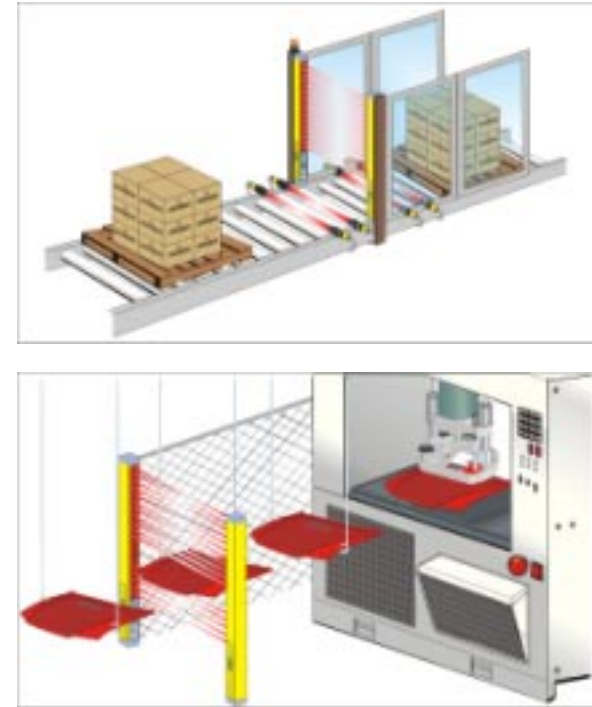

Fig. 22
- In relation to particular operating requirements, the muting function enables the exclusion of the safety light curtain during functioning; all OSSD outputs stay active (Fig.22).